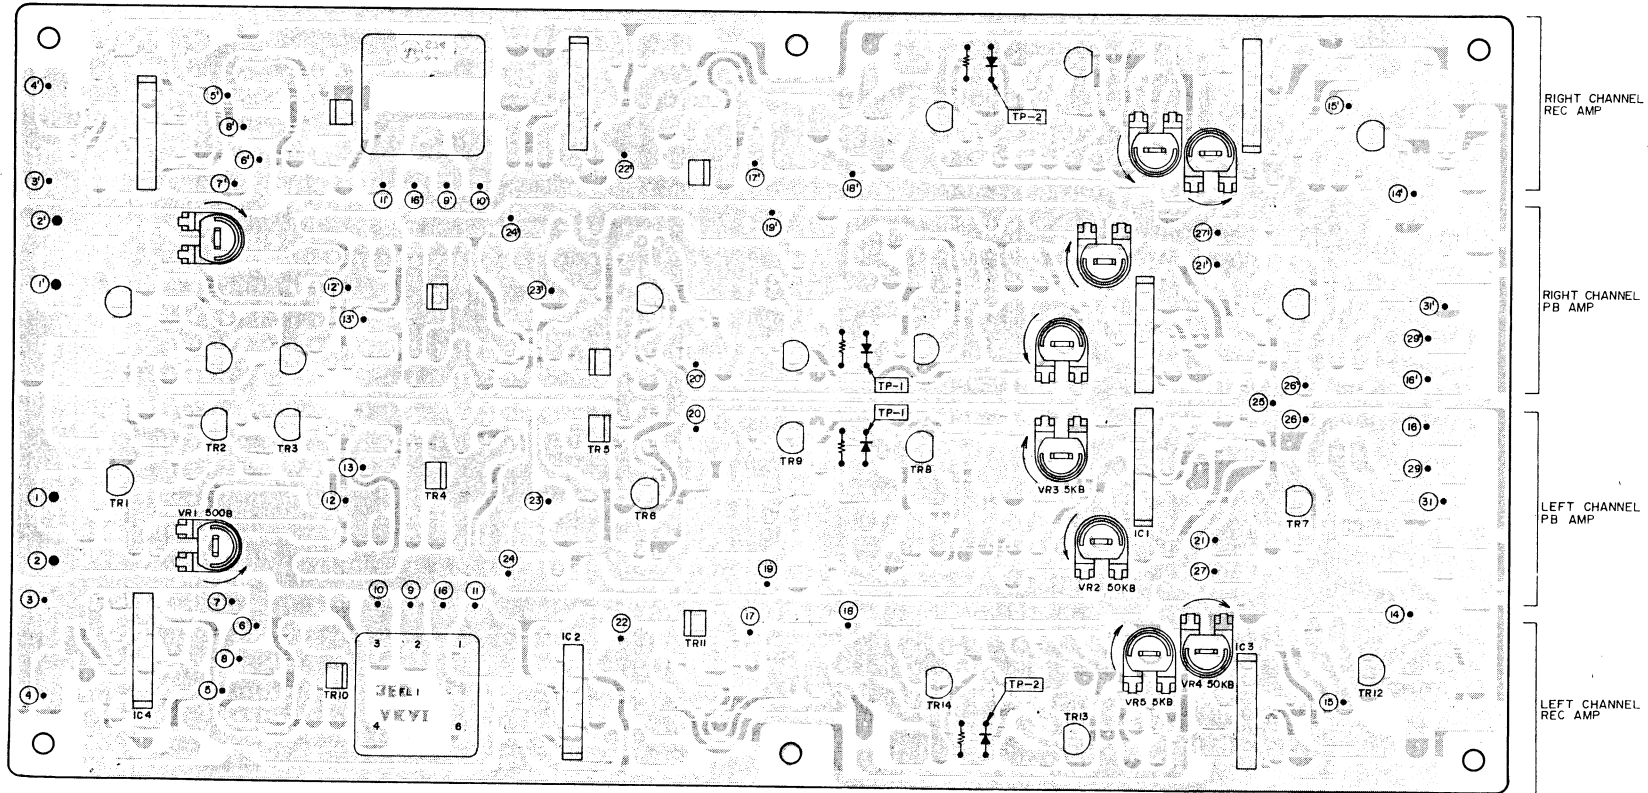

Fig. 17 Pre Amp P.C Board CA-5205
1) Recording/Playback Amplifier Adjustment(Refer to Fig. 17,18 and 19 and Chart 1)
2) Dolby Noise Reduction Circuit Adjustment (Refer to Fig. 17)
3) Recording Dolby Noise Reduction Amplifier Adjustment (Refer to Fig. 17)
- e. With the Dolby Noise Reduction Switch at ON, adjust semi-fixed resistor VR4 (50 kB) shown in Fig. 17 to obtain a -20 dBm level at center terminal of Rec Level Volume
- f. Disconnect Test Point TP2 from ground and adjust semi-fixed resistor VR5 (5 kB) shown in Fig. 17 to obtain a -22 dBm level at center terminal of Rec level Volume.
- 4) Playback Dolby Noise Reduction Amplifier Adjustment (Refer to Fig. 17)
- Supply a 5 kHz signal to terminal (13) shown in Fig. 17 and obtain a -20 dBm line output level.